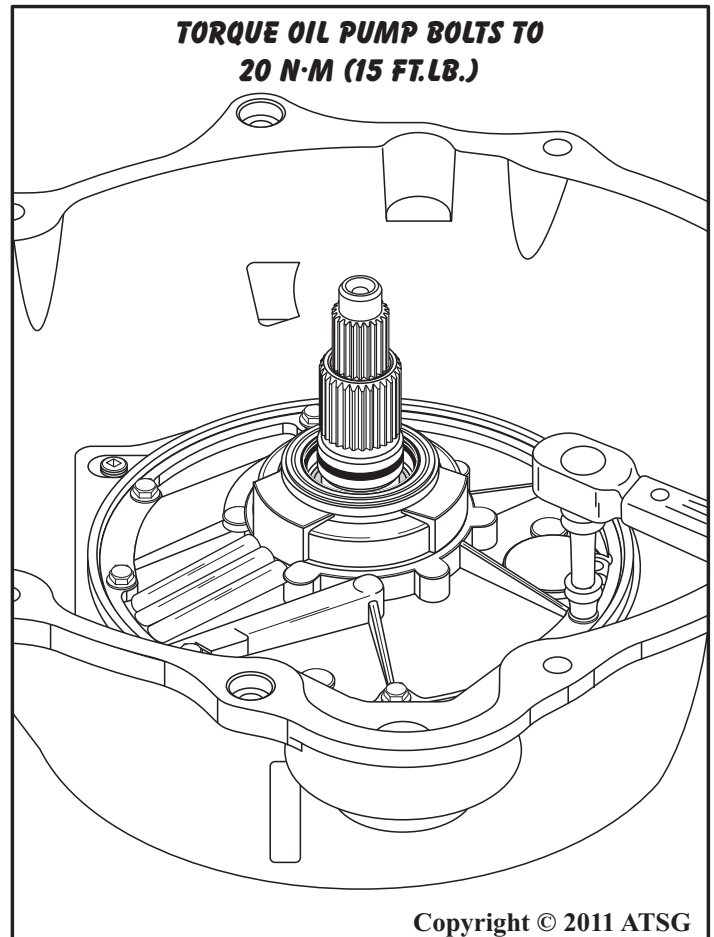

Figure 224
18. Torque oil pump bolts to 20 N·m (15 ft.lb.), as shown in Figure 224.